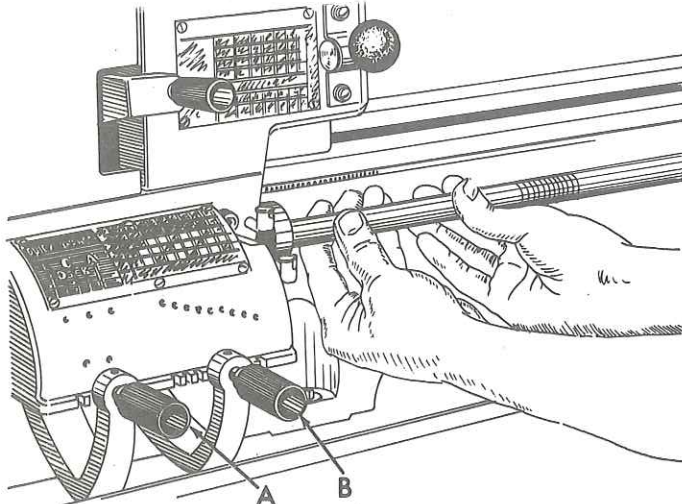

FIGURE 22
2. Disengage quick change levers (A and B, Fig. 22).
Lead screw should turn freely when rotated with fingers as shown in figure 22.